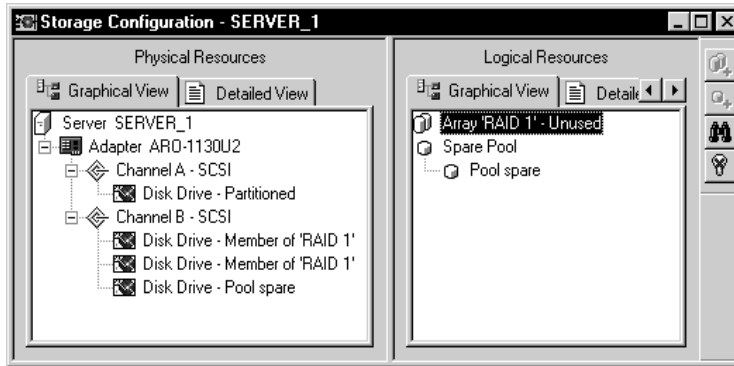
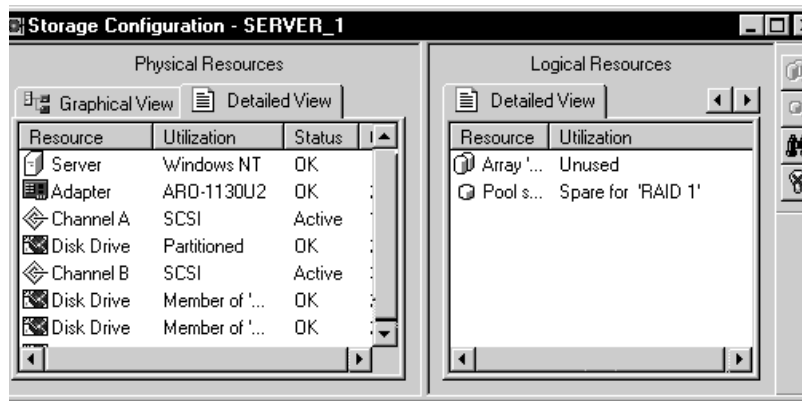

Figure 5-1. Configuration - Graphical View
Figure 5-2. Configuration - Detailed View
- 1 Click  to open the Storage Configuration window. All array and spare configuration tasks are done from within this view. You can select a Graphical view as shown in Figure 5-1 or a Detailed view as shown in Figure 5-2